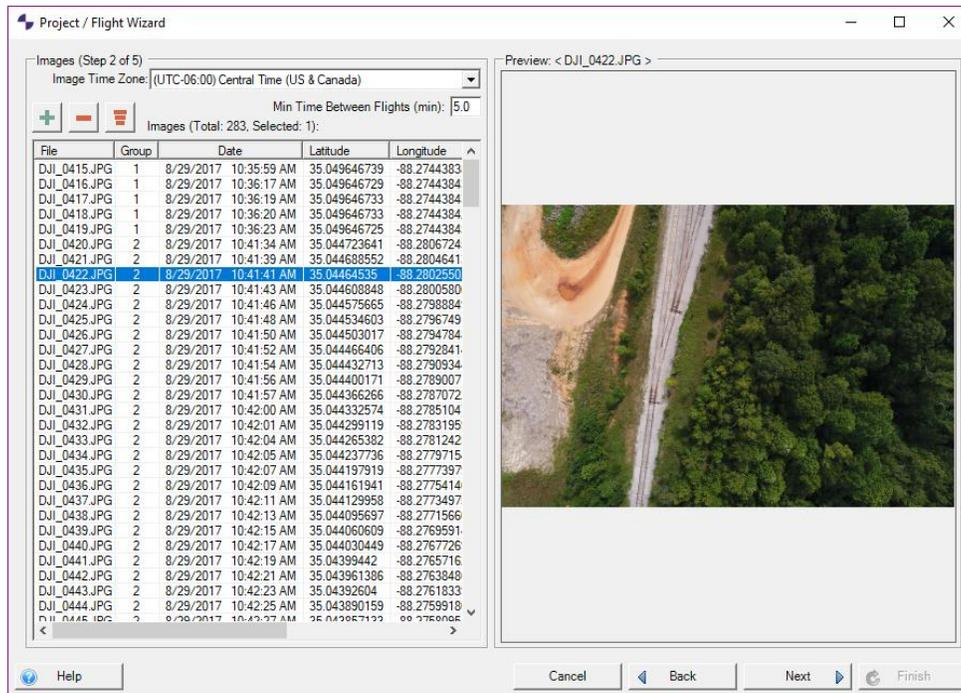

Figure 10 - Photo Preview
22. The photos should now be visible in the dialog. If a photo is selected, you can preview the photo in the *Preview* window (Figure 10).